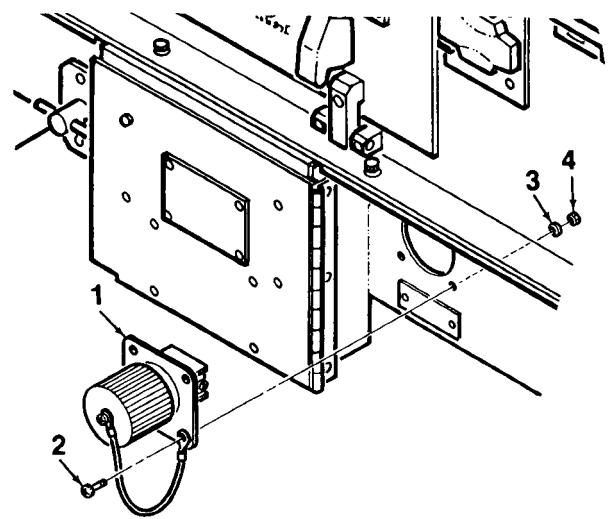

Figure 4-23. SLAVE RECEPTACLE
2. Tag and disconnect electrical wiring from the rear of SLAVE RECEPTACLE (1, Figure 4-23).
4. Remove SLAVE RECEPTACLE (1) and attached cap from generator set skid base by removing screws (2), washers (3), and nuts (4).
1. Mate SLAVE RECEPTACLE (1, Figure 4-23) and attached cap to skid base. Secure using screws (2), washers (3), and nuts (4).
2. Connect electrical wiring to rear of SLAVE RECEPTACLE (1).
5. Attach load wrench (3, Figure 4-23) lanyard to output box using screw (4), washer (5), and nut (6).
6. Close output panel cover (1) and engage lock (2).